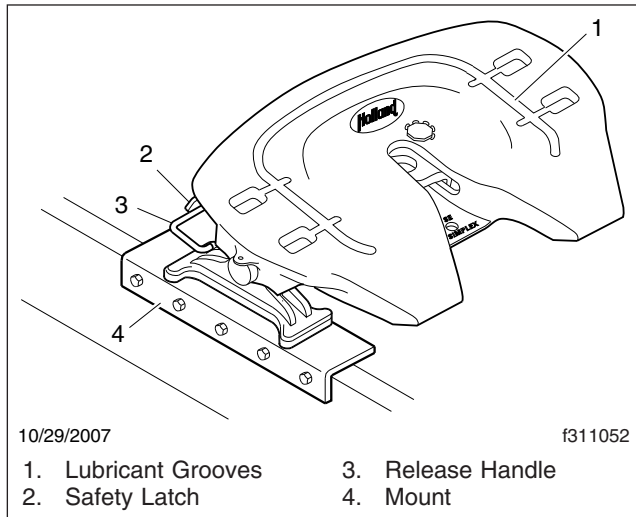

Fig. 2, Holland FWS1 Fifth Wheel
- When the wheel is locked, the safety latch must swing free and fall freely into position. See Fig. 2.